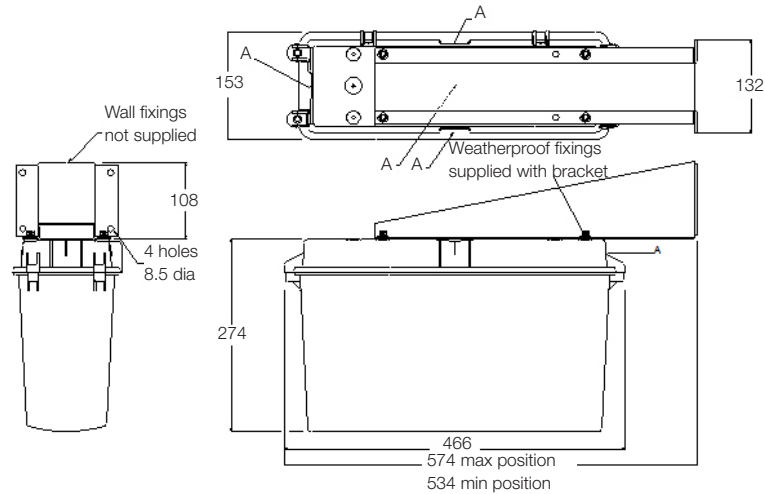
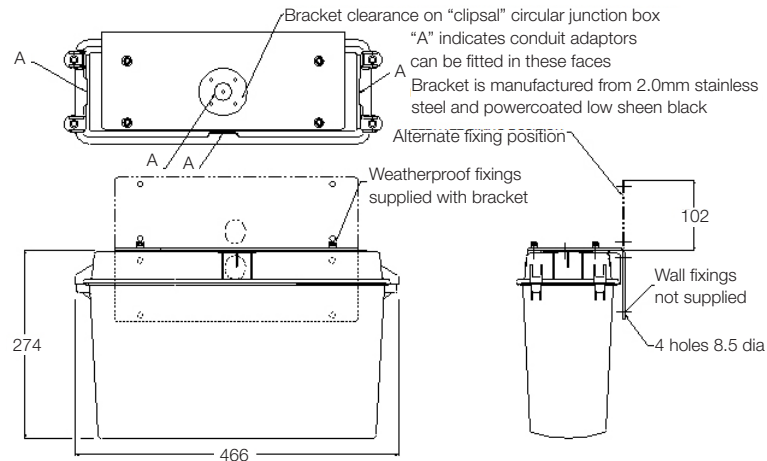
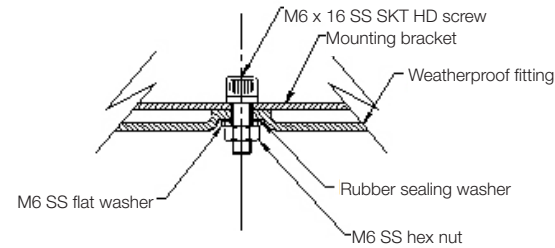
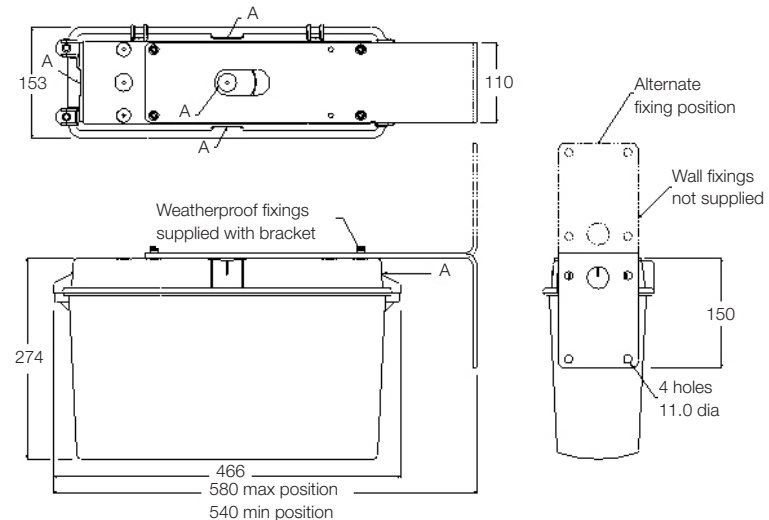

Figure 5: Showing installation detail of cantilever light weight wall mount bracket
Figure 2: Showing installation detail of wall mount bracket
Figure 3: Showing details of supplied hardware to be used with the bracket
Figure 4: Showing installation detail of cantilever heavy duty wall mount bracket
- Using Stanilite light weight cantilever wall mount bracket WQFCLL; refer figure 5 for installation of cantilever light weight wall mount bracket WQFCLL. The cantilever light weight bracket is manufactured from 1.5mm stainless steel and is powder coated low sheen black.
In figure 5 "A" indicates conduit adaptors can be fitted to these faces. Installer must ensure proper sealing of any penetration to the base to maintain the IP rating of the unit. The necessary hardware (screws, nuts and washers) are supplied with the bracket. The figure 3 shows how the supplied hardware is used when installing the cantilever light weight wall bracket to the nylon base.
- Using Stanilite wall mount bracket WQFWM; for robust wall mounting use Stanilite wall mounting bracket part number WQFWM. Refer figure 2 for installation of wall mount bracket. The bracket is manufactured from 2.0mm stainless steel and is powder coated low sheen black. In figure 2 "A" indicates conduit adaptors can be fitted to these faces. Installer must ensure proper sealing of any penetration to the base to maintain the IP rating of the unit. The necessary hardware (screws, nuts and washers) are supplied with the bracket. Figure 3 shows how the supplied hardware is used when installing the wall bracket to the nylon base.
- Using Stanilite heavy duty cantilever wall mount bracket WQFCLH; for robust cantilever wall mounting use Stanilite heavy duty bracket part number WQFCLH. Refer following figure 4 for installation of cantilever heavy duty wall mount bracket. The cantilever heavy duty bracket is manufactured from 6.0mm mild steel, hot zinc dipped and is powder coated low sheen black.
- In the above figure 4 "A" indicates conduit adaptors can be fitted to these faces. Installer must ensure proper sealing of any penetration to the base to maintain the IP rating of the unit. The necessary hardware (screws, nuts and washers) are supplied with the bracket. The figure 3 shows how the supplied hardware is used when installing the cantilever heavy duty wall bracket to the nylon base.